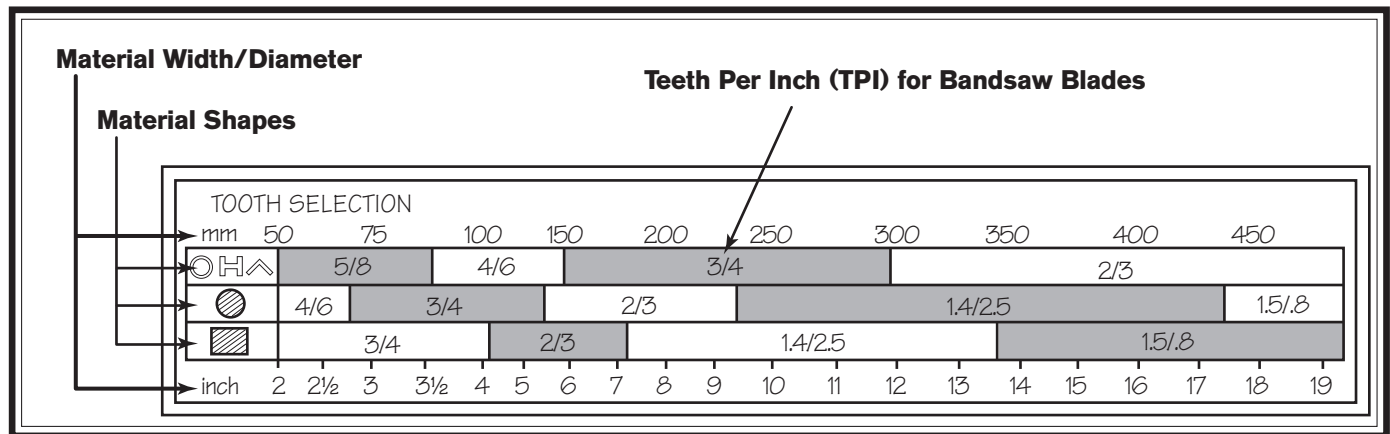

Figure 25. General guidelines for blade selection and speed chart.
2. Refer to the "Material Width/Diameter" row of the blade selection chart in **Figure 25**, and read across to find the workpiece thickness you need to cut.